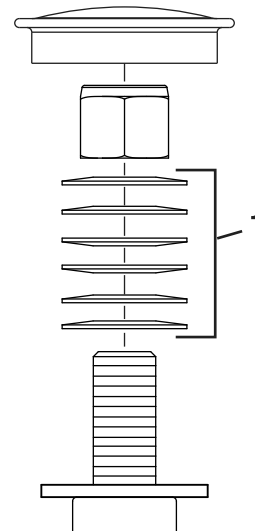

Figure 60
3. Remove the dust cap from the caster and tighten the locknut (Figure 60).
4. Tighten the locknut until the spring washers are flat, and then back off a 1/4 turn to properly set the preload on the bearings (Figure 60).
Important: Make sure that the spring washers are installed correctly as shown in Figure 60.
5. Install the dust cap (Figure 60).